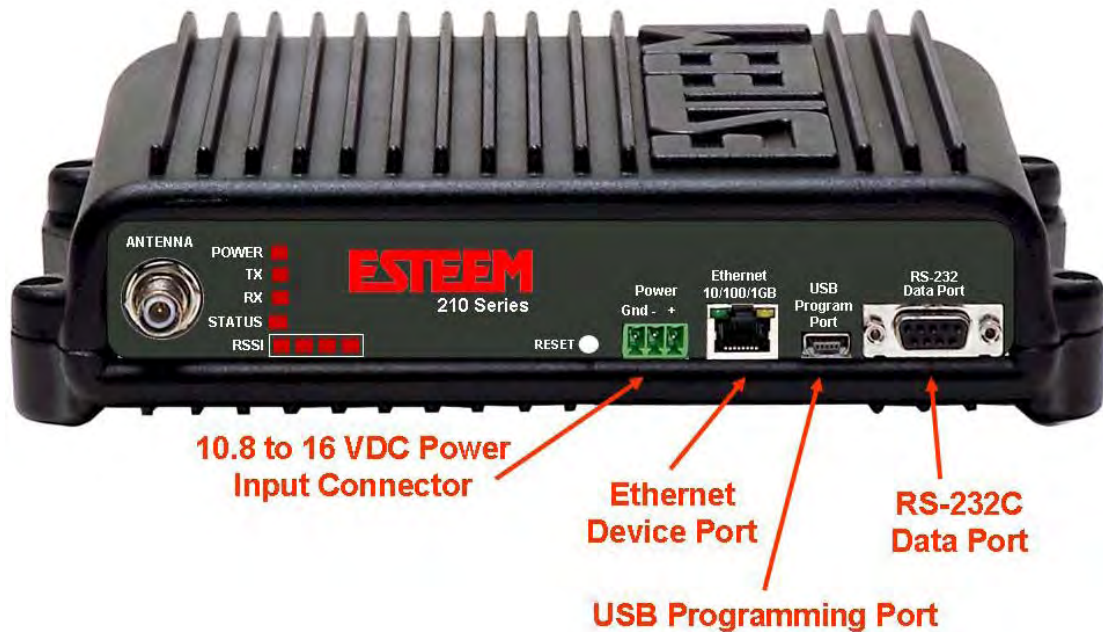

Figure 1: 210 Front Panel Overview
1. Connect the antenna to the TNC connection on the ESTeem Model 210 (Figure 1).